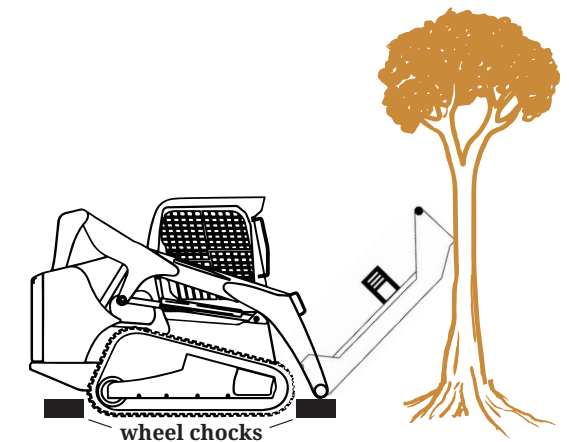

Figure 5.4 - Brush Cutter Deck Supported By Tree
4. SECURE the front end of the cutter deck with an overhead hoist and chain. If you are performing this procedure in the field, lean the cutter head against a large, stable tree that has a diameter of at least 10 inches (see Figure 5.4).